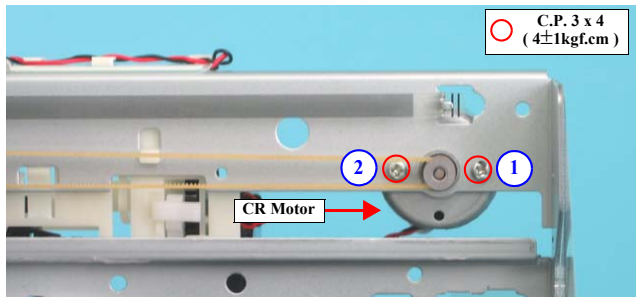

Figure 4-57. Removing CR Motor
2. Secure the screws in the order shown in Figure 4-57.